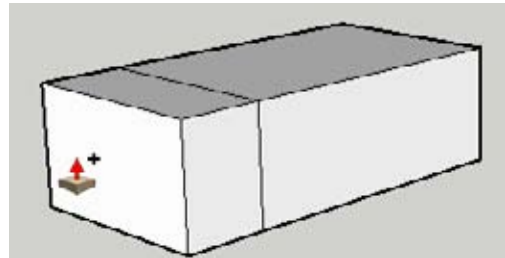

Figure 2-81
1. The first step is to make the reference geometry. Start with a simple box. Use Push/Pull with the Ctrl/Option key to pull out another, smaller box from the side, as in Figure 2-81.